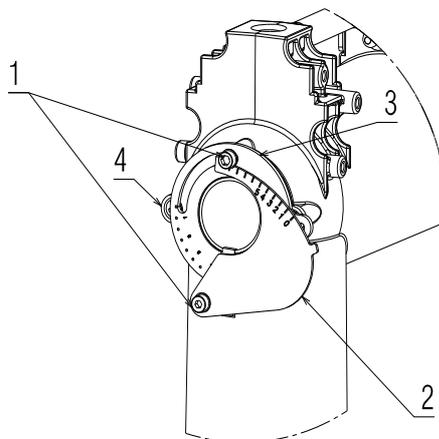

Fig. 20
- loosen the screws 1) and rotate the ring nut 3) until the notch you have found corresponds with the indicator 4)(Fig. 20).
- Block the 2 screws 1)(Fig. 20).